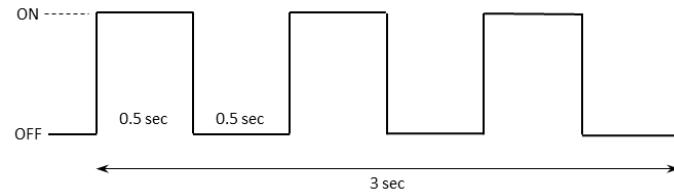

Figure 1-3: The GREEN LED Pattern After the Magnetic Wake-Up/Reset Pattern is Applied
- GREEN** is toggled ON and OFF every 0.5 sec for 3 sec as shown in Figure 1-3.